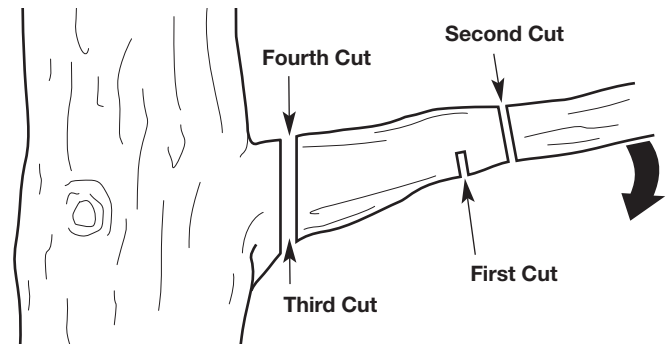

Fig. 19
1. Make the first cut approximately 6 inches (15 cm) from the tree trunk. Cut upward, from the underside of the limb. Use the top of the guide bar to make this cut. Cut a third of the way through the diameter of the limb (Fig. 19).
2. Make the second cut 2 - 4 inches (5 - 10 cm) farther out on the limb. Cut downward, from the top of the limb. Use the bottom of the guide bar to make this cut. Cut completely through the limb (Fig. 19).
3. Make the third cut as close to the tree trunk as possible. Cut upward, from the underside of the limb stub. Use the top of the guide bar to make this cut. Cut a third of the way through the diameter of the limb (Fig. 19).
4. Make the fourth cut directly above the third cut. Cut downward, from the top of the limb stub. Use the bottom of the guide bar to make this cut. Cut completely through the limb stub to meet the third cut (Fig. 19). This will remove the limb stub.